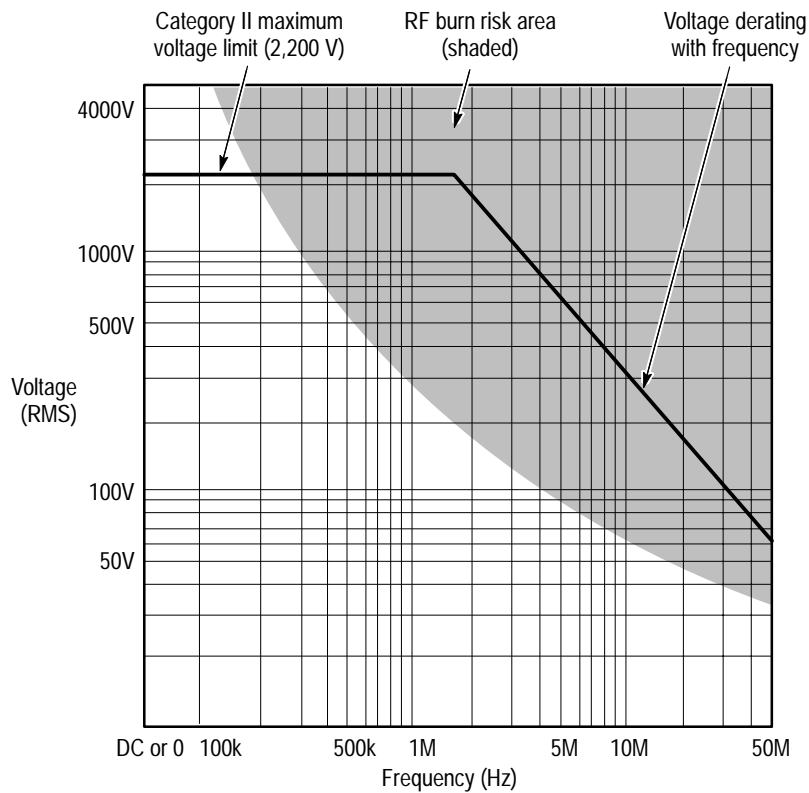

Figure 2: Safety Limits (voltage between either input and earth ground)
**WARNING.** To avoid personal injury, do not handle the probe leads when the leads are connected to a source that is above the voltage and frequency limits given in Figure 2 on page 13. The area above these limits poses a risk of radio frequency (RF) burns.
Above 1.5 MHz, the voltage limit decreases as frequency increases. See Figure 2. The input limit applies to both the 100X and 1,000X settings.
Maximum rated input voltage (Refer to Figure 2 on page 13)